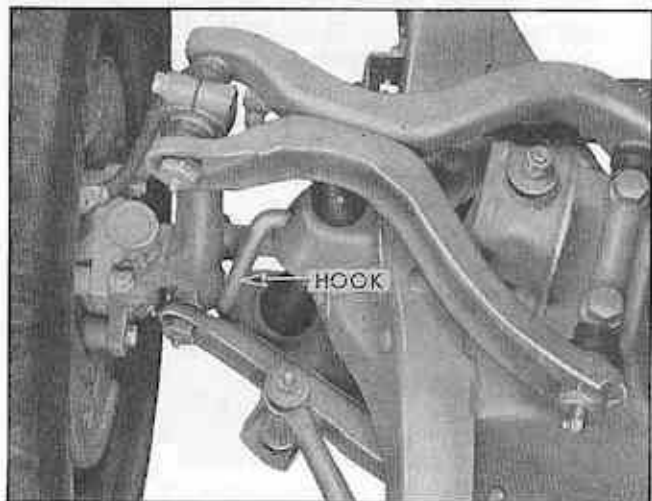

Fig. 50 Hold Down Hook J-5571 Installed
1. Hook front suspension in five passenger load position using tool J-5571 front suspension hold down hook (Fig. 50).